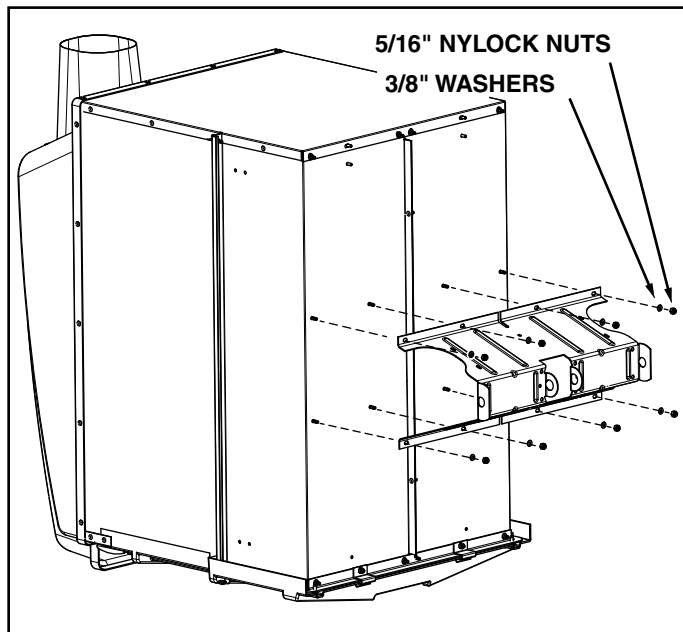

FIGURE 1
- 1. Tip the cart back to rest upright on the rear of the cart. See figure 1.
- 2. Attach the wheel support to the cart using eight 5/16" nylock nuts and 3/8" washers. See figure 1.